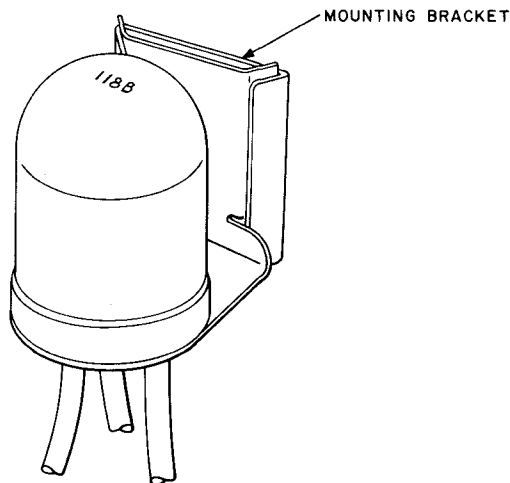

Fig. 74—118B Protector
12.01 The 118B protector (Fig. 74), which supersedes the 99C protector, is designed to protect telephone circuits in the event of an accidental contact between power wires (of the MGN-type and